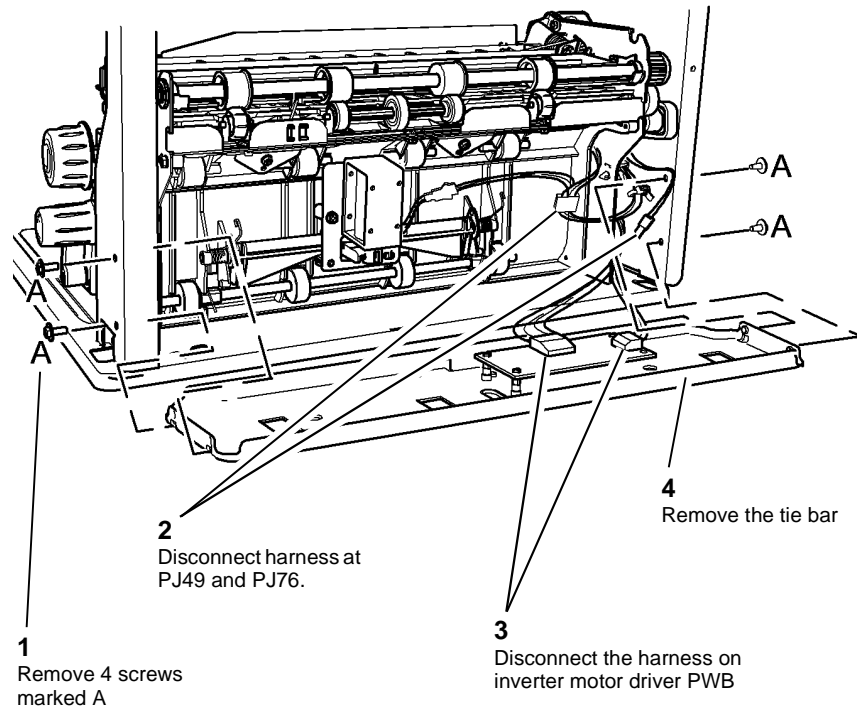

Figure 3 Tie bar
7. Remove the tie bar. Figure 3.
NOTE: On 65-90 ppm machines W/TAG 120, the thermistor connection PJ76 is not used. Refer to Figure 3.
1. The inverter motor harness is routed correctly. Check that the harness does not get trapped between the inverter frame and the base, Figure 3.